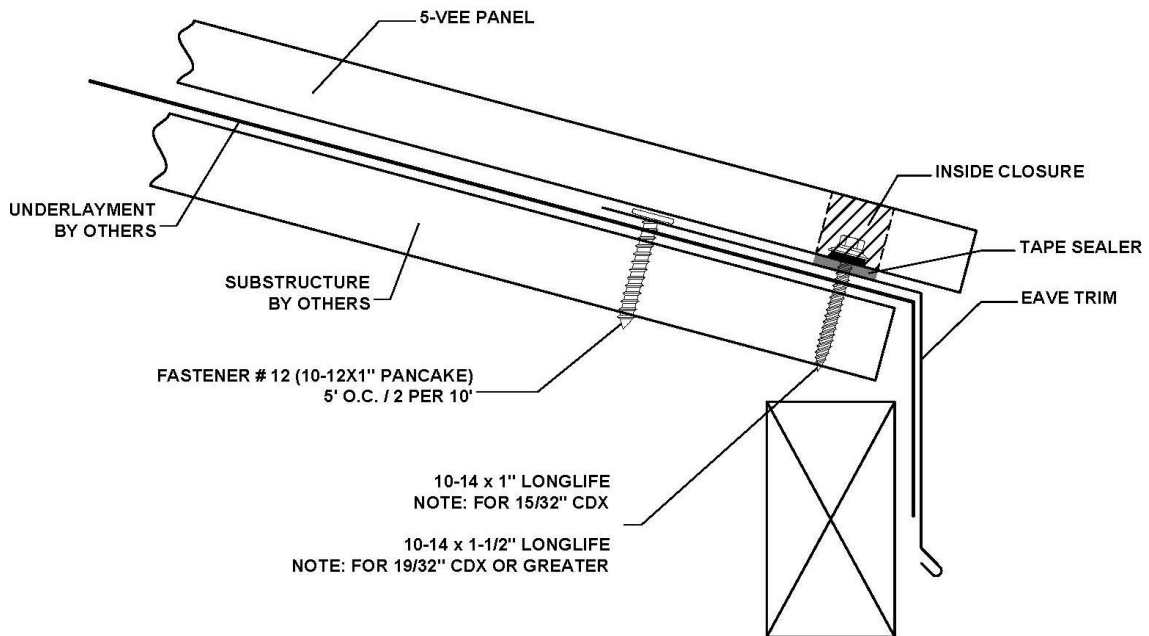

Figure 10: Eave Detail
**Eave Trim:** The eave trim must be installed as shown in Figure 10.